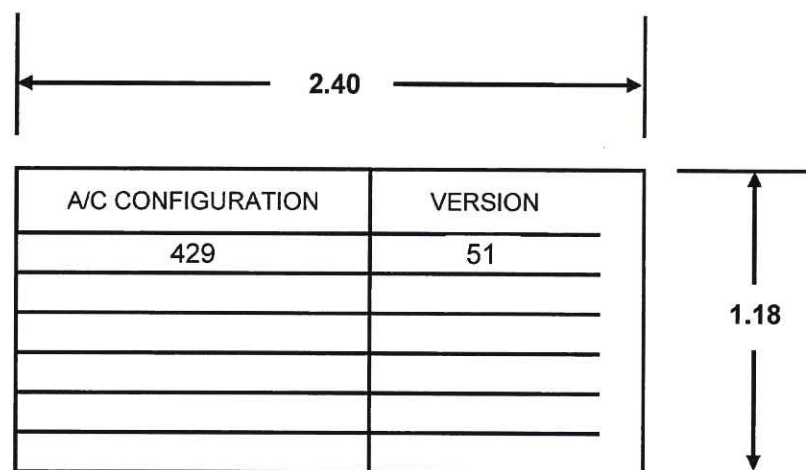

FIGURE 3 - LABEL, P/N 1209-3198-PF
4. Dimensions: Per Figure 3
2. Verify the information on the existing Label (1209-3198-PF) reflects the current software version. Update the Label, if necessary, as shown in Figure 3.